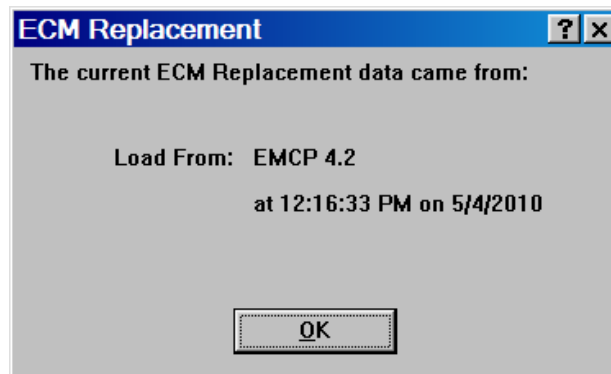

Figure 34: Load from File
4. The software will confirm opening the file. See Figure 34. Click "OK".